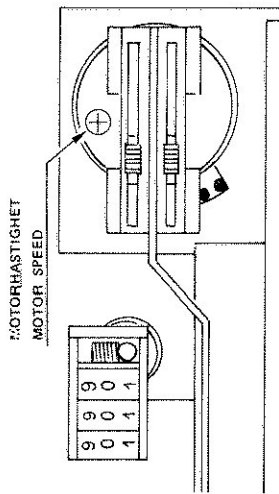

Fig. 11 Justering av motorhastighet
- The speed can be adjusted through a hole in the top of the motor, see Figure 11.